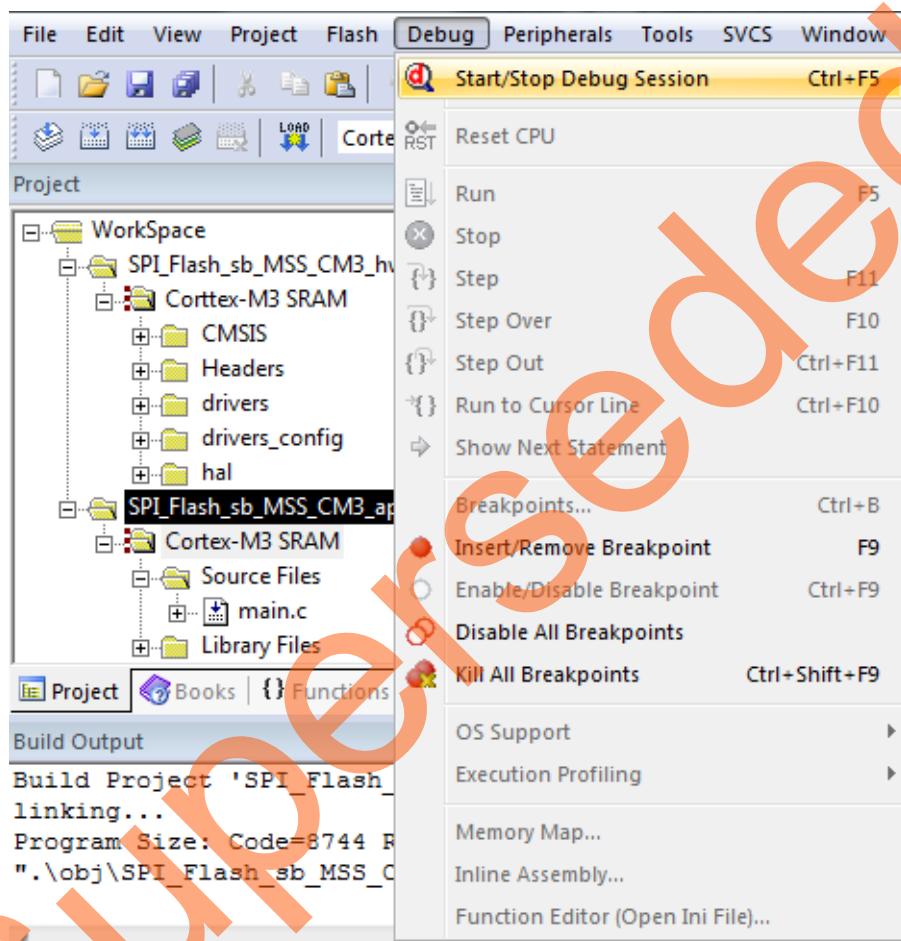

Figure 36 • Selecting Start/Stop Debug Session
1. Select **Start/Stop Debug Session** from the **Debug** menu in the uVision window to run it through the debug hardware as shown in Figure 36. The processor code will be downloaded to the SmartFusion2 eSRAM.